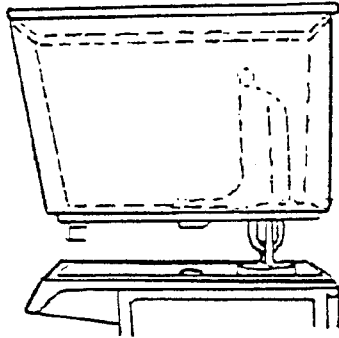

Fig. 5
7. Slide bowl over the cooling tubes and assemble to bowl to the dispenser. Be careful not to wrinkle gasket as it will result in beverage leaking out of bowl (see Fig. 5).